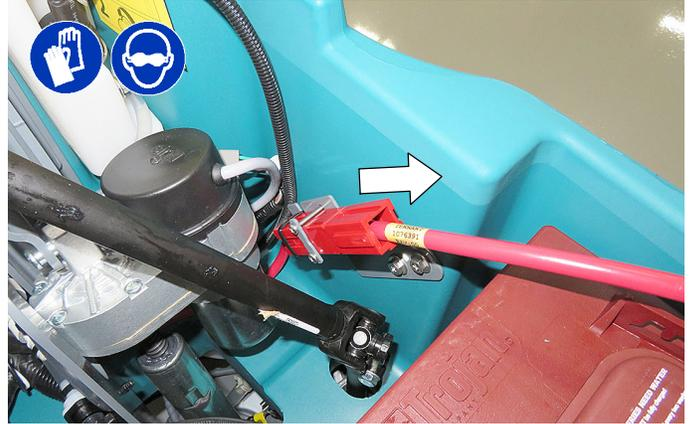

Fig. 1
3. Disconnect battery cable from battery pack (Figure 1).